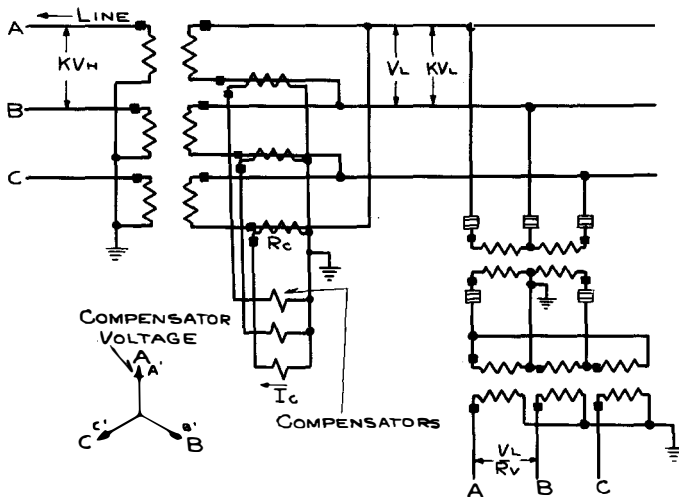

Figure 6
**CASE IV** Star-Delta Connected Power Transformer - Compensator Current Transformers Inside Delta (figure 6 & 11). The compensator current equals: